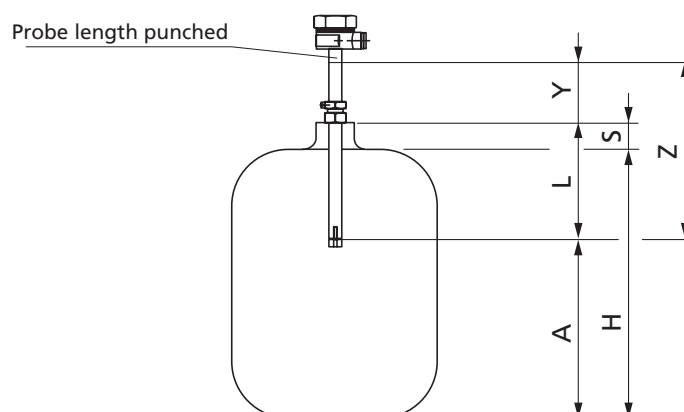

Fig. 4: Alignment dimensions of the level detector
With the permissible degree of filling in the tank you define the response level of the Overfill Protection System (see Fig. 4).
The respective probe length (Z) is permanently marked with a punch above the marking groove at the top of the probe. It is the distance between the marking groove and the threshold point of the level detector (see Fig. 4).
To set the response length (L) as the distance between the hexagonal support of the screw-in body and the marking groove on the protective sleeve of the sensor at the bottom of the level detector, proceed as follows (see Fig. 4):
- Calculate the response length (L) depending on the tank dimensions and the response level (A).